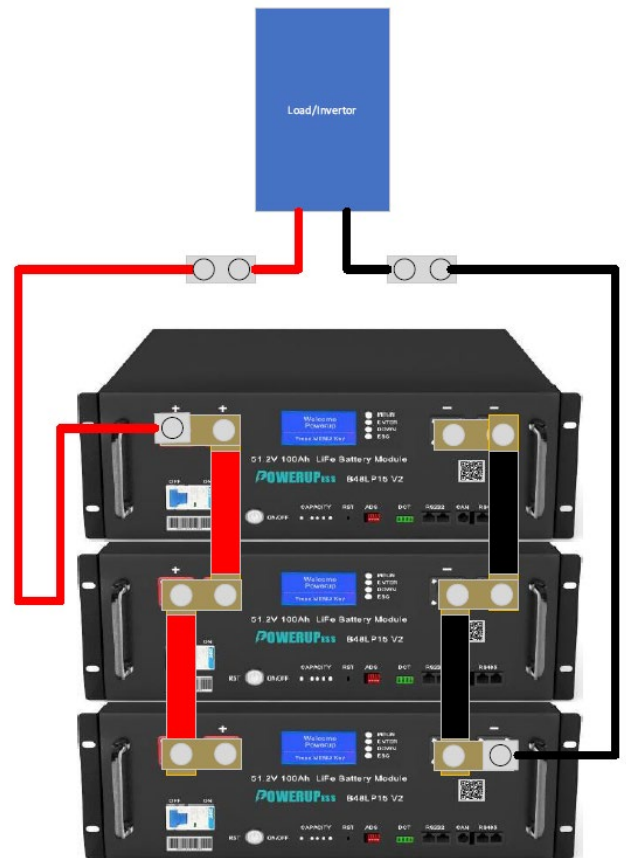

Figure 2
- PowerUpESS recommends using the copper bus bar kits BBK2100 through BBK4100 to parallel modules together. Do NOT exceed the total ampacity per battery string over the busbar's total ampacity. See Figure 2.
- When using the copper busbars BB2.5 and BB8.25 on a 3-battery paralleled configuration, it's recommended using equal length battery cables for each string of batteries to the distribution block. see figure 2.